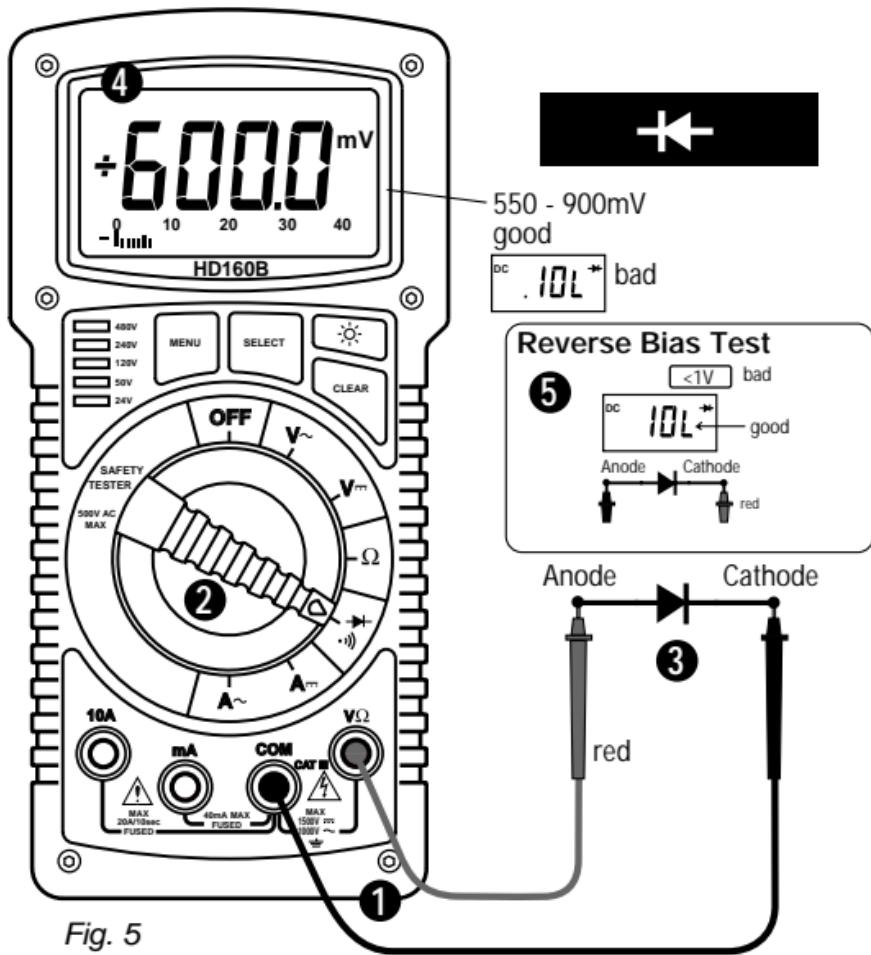

Fig. 5
DIODE AND CONTINUITY TEST (See Fig. 5)
The diode test measures the voltage drop across a diode junction. ① Connect the test leads as shown in figure 5. ② Set the Function/Range switch to $\rightarrow\leftarrow$. ③ Apply probe tip of red lead to the anode and of black lead to the cathode of the diode. ④ The meter's display indicates the forward voltage drop (approx. 0.6V for silicon diode or 0.4V for germanium diode). An open diode is indicated by "I OL". ⑤ Reverse test lead connections to the diode to perform a reverse bias test. "I OL" indicates a good diode. **Notes:** "I OL" for both reverse and forward bias tests indicates an open diode. A low voltage reading for both bias tests indicates a shorted diode. If the diode is shunted by a resistor of 1000 ohms or less, it must be removed from the circuit before taking the measurement. Bipolar transistor